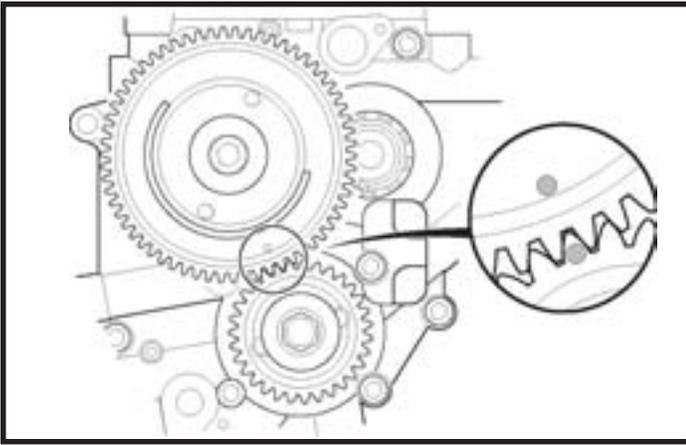

Figure 4
11. If necessary, place transmission in high gear and turn rear wheel to rotate engine until timing mark on crankshaft gear is in position. **See Figure 4.**
12. Place drive gear key in rear camshaft. Position cam drive gear on rear camshaft and key with timing mark outward. Rotate drive gear and camshafts until drive gear and crankshaft gear timing marks are aligned. **See Figure 4.**